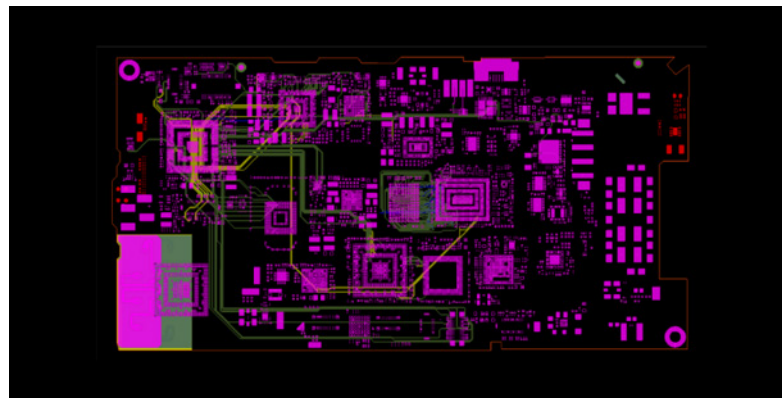

Figure 1: Cadence originated PCB imported into AWR software through an IPC-2581 file format.
To successfully integrate RF/microwave content and mixed-signal designs, PCB layout tools and RF circuit design software must exchange design data efficiently. Cadence's AWR software offers an RF/microwave intellectual property (IP) creation platform with import and export functionality to provide a pathway to and from Cadence Allegro or OrCAD® PCB design tools (Figure 1).